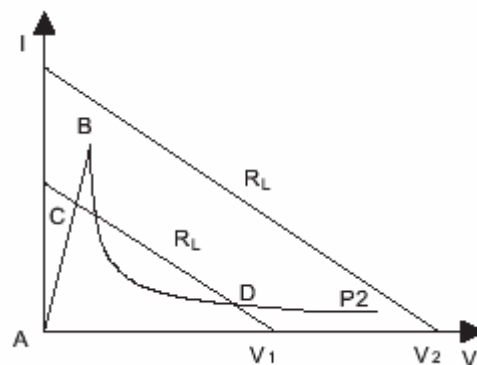

Fig.21 Overvoltage protection
- Over voltage (see Fig. 21), the load current increases due to a increase in voltage. Example, the 380V mains is accidentally applied to a 220V mains.